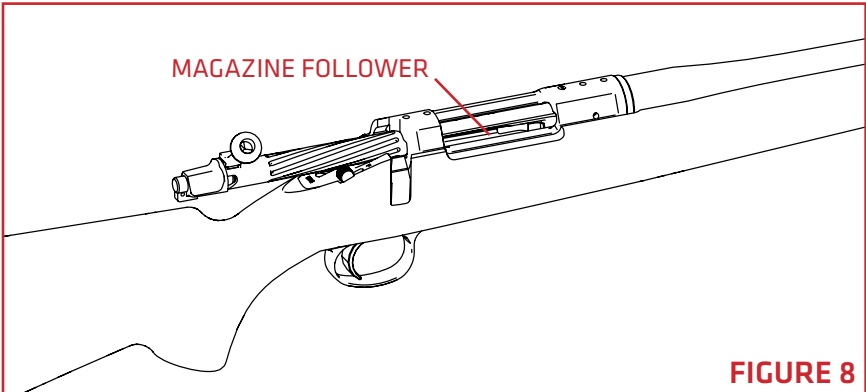

FIGURE 8
2. Open and retract the bolt to the rear. The magazine follower will now be visible through the open action (**FIGURE 8**).